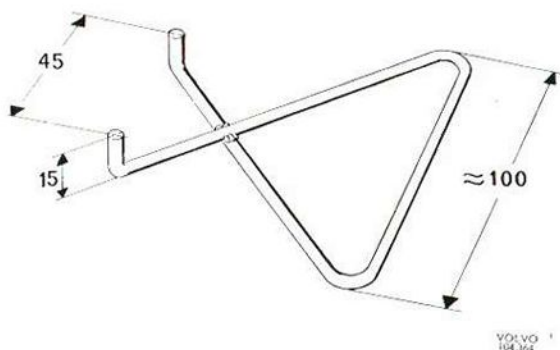
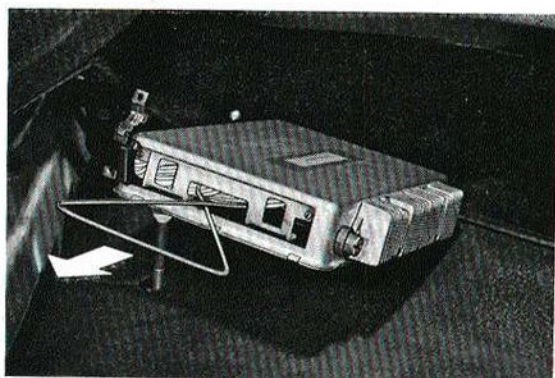

Fig. 2-185. Puller for plug contact
Fig. 2-186. Removing plug contact
5. Make a puller like the one shown in Fig. 2-185. Hook in this puller, see Fig. 2-186, and pull out the plug contact carefully.